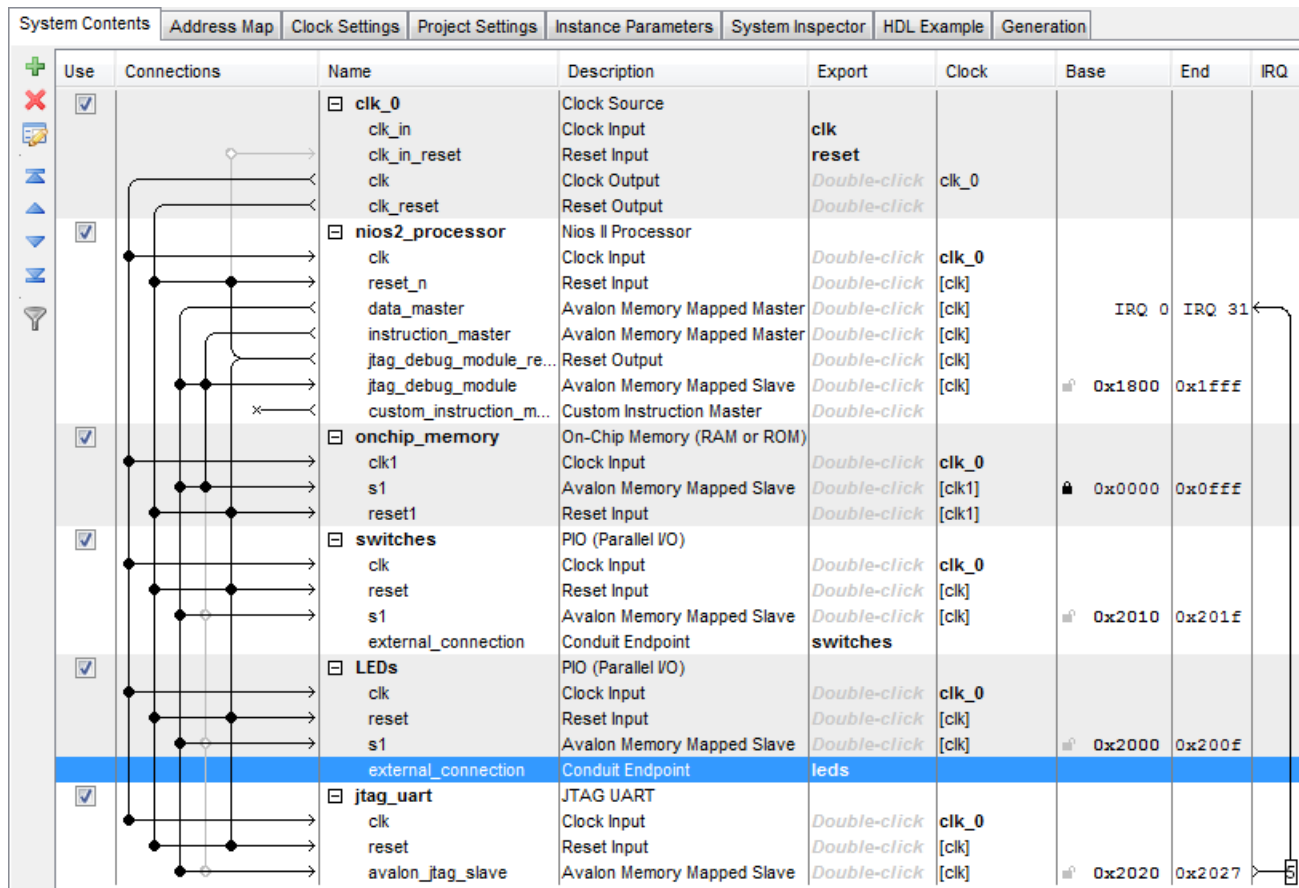

Figure 19. The complete system.
14. So far, we have specified all connections inside our *nios_system* circuit. It is also necessary to specify connections to external components, which are switches and LEDs in our case. To accomplish this, click on **Click to export** (in the Export column of the System Contents tab) for **external_connection** of the switches PIO, and type the name *switches*. Similarly, establish the external connection for the lights, called *leds*. This completes the specification of our *nios_system*, which is depicted in Figure 19.